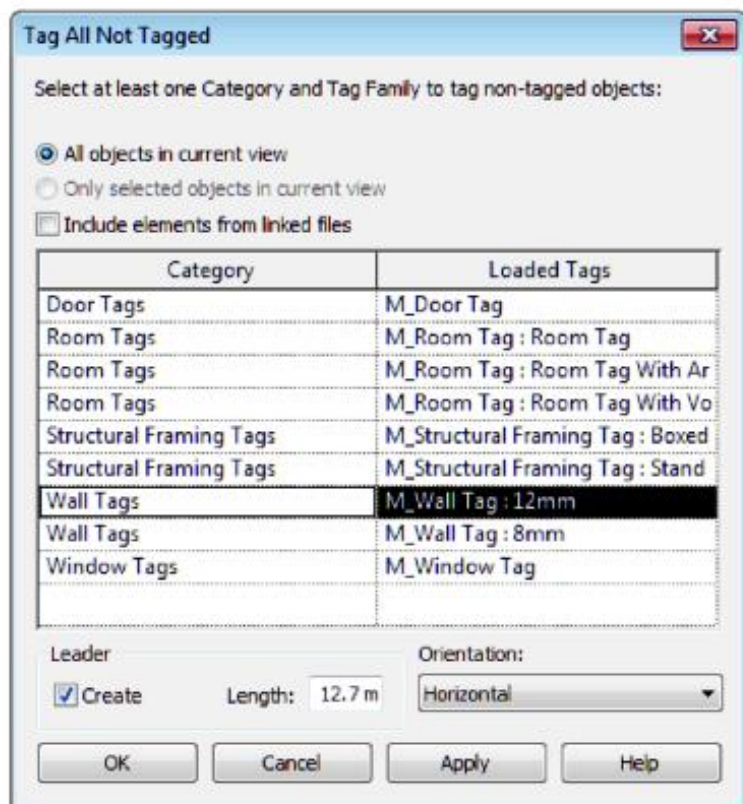

Figure 15–17
2. In the Tag All Not Tagged dialog box, set the *Wall Tags* category to the **12mm** tag type and select **Leader** as shown in Figure 15–17.